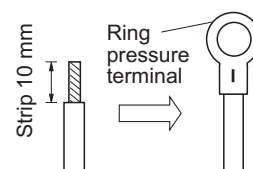
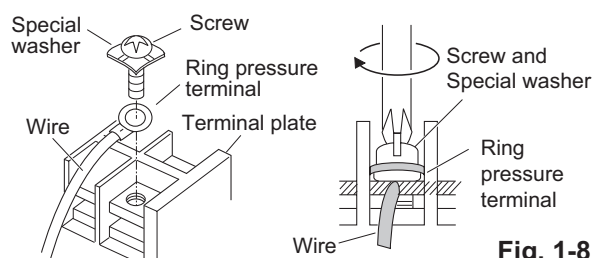

Fig. 1-7
Fig. 1-8
- (1) Cut the wire end with cutting pliers, then strip the insulation to expose the stranded wiring about 10 mm and tightly twist the wire ends. (Fig. 1-7)
- (2) Using a Phillips head screwdriver, remove the terminal screw(s) on the terminal plate.
- (3) Using a ring connector fastener or pliers, securely clamp each stripped wire end with a ring pressure terminal.
- (4) Place the ring pressure terminal, and replace and tighten the removed terminal screw using a screwdriver. (Fig. 1-8)